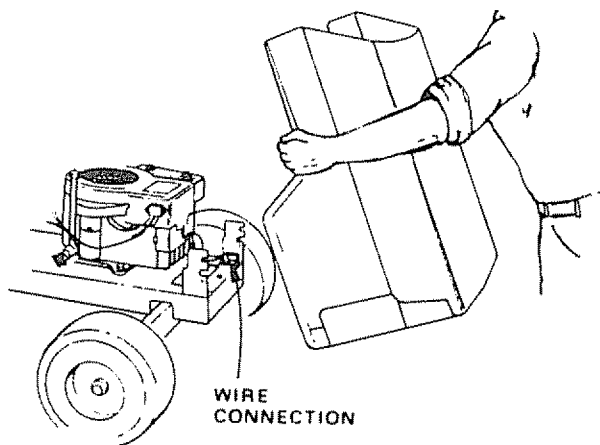

FIGURE 24
- Unsnap headlight connection (Fig. 24).
- Stand in front of tractor. Grasp hood and tilt forward and lift off (Fig. 24).